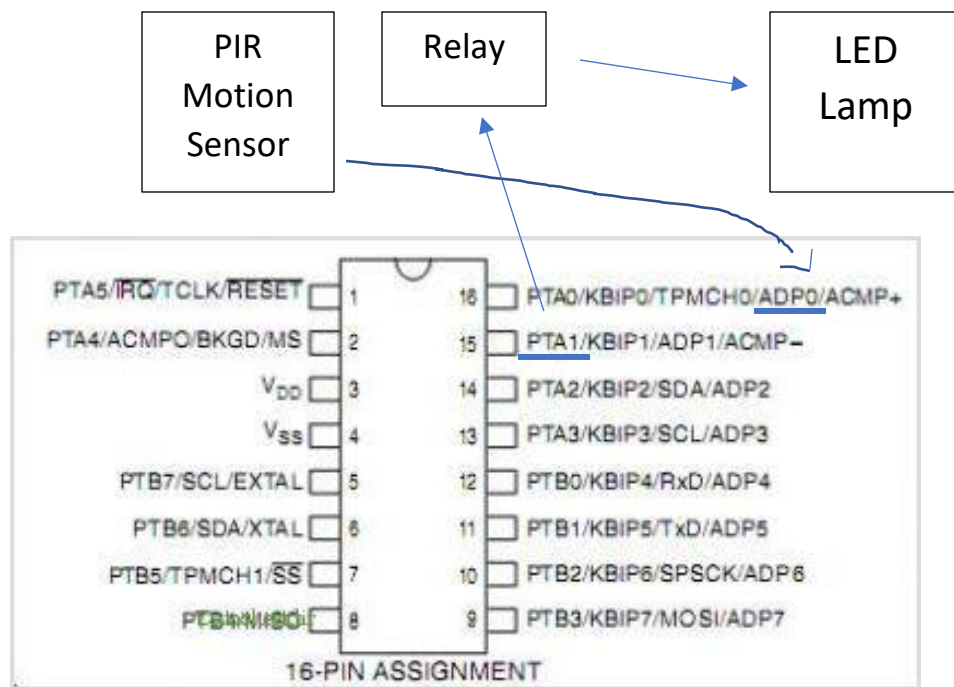

Figure 1.1 Diagram of hardware setup
- Figure 1.1 (After Paragraph 1) – Diagram showing hardware setup.